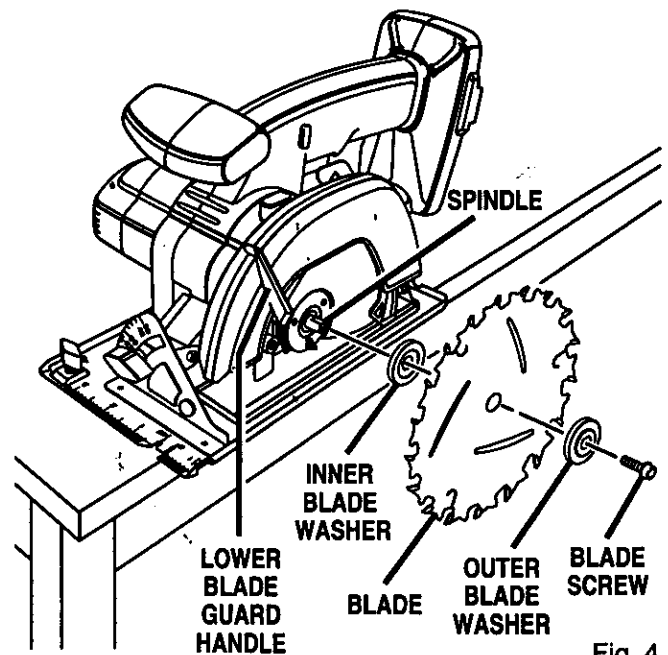

Fig. 4
- Depress spindle lock button and remove blade screw and outer blade washer. See Figure 4.
- Fit saw blade inside lower blade guard and onto spindle. **Note:** The saw teeth point upward at the front of saw as shown in figure 4.
- Remove outer blade washer. See Figure 4.